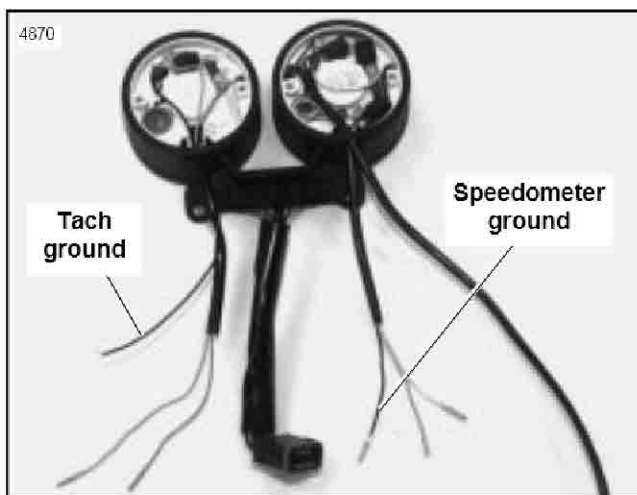

Figure 6. Speedometer in Double Bracket
- See Figure 6. Feed wires from speedometer through front of left opening in double bracket. Lubricate the front and rear gaskets with isopropyl alcohol or glass cleaner to ease installation.
- See Figure 6. Cut speedometer black ground lead 1 in. from existing terminal. Strip 3/8 in. insulation from both the wire ends adjacent to the cut. Strip 3/8 in. insulation from tachometer black ground lead.